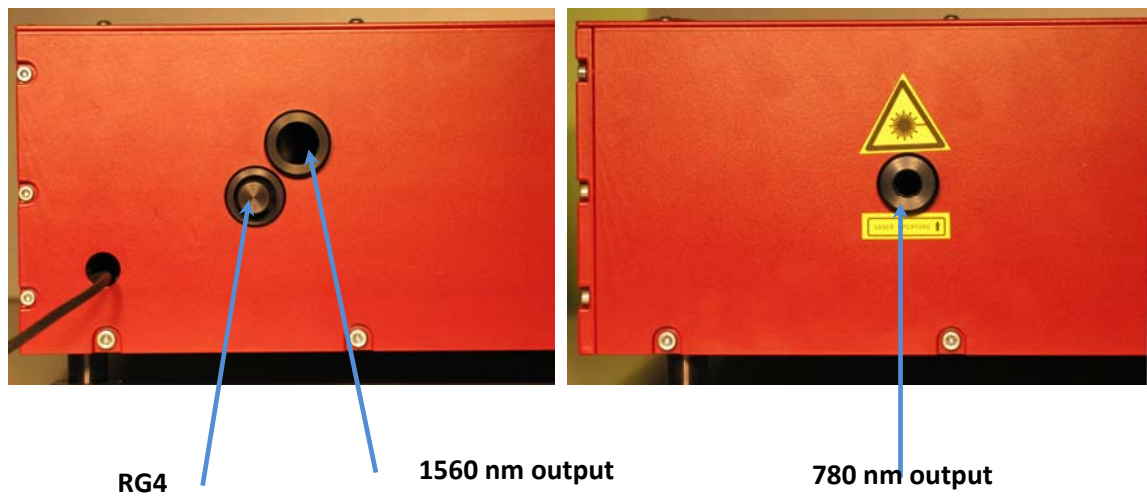

Fig. 5 Laser head main output panel (1560 nm output is optional and should be mentioned when ordering)
7. The operation regime can be monitored and controlled via the service output (**FS3** Fig. 5).